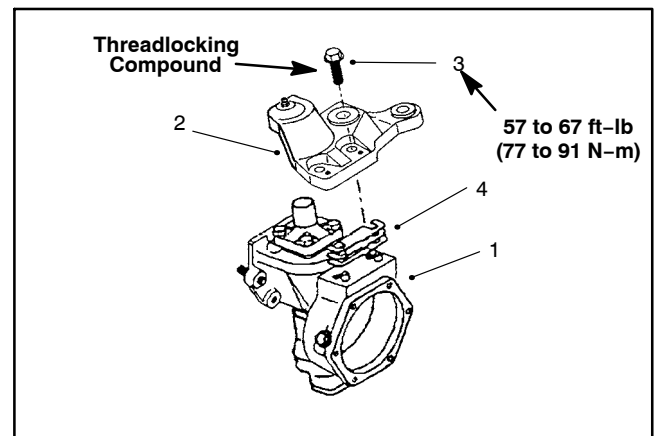

Figure 15
4. Remove the axle case support mounting screws, the axle case support and the support shims (Fig. 15).